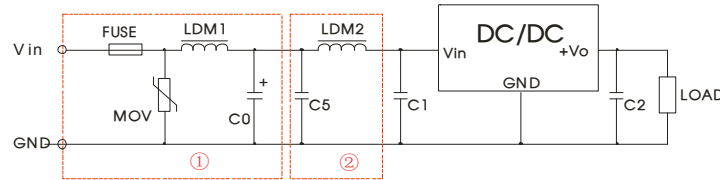

Fig. 5 EMC compliance circuit
Notes: For EMC tests we use Part ① in Fig. 5 for immunity and part ② for emissions test. Selecting based on needs.